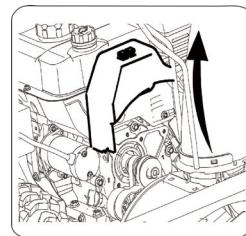

Figure 21
**NOTE:** Drain the gasoline from the snow thrower, or place of plastic under the gas cap. See Figure 21.